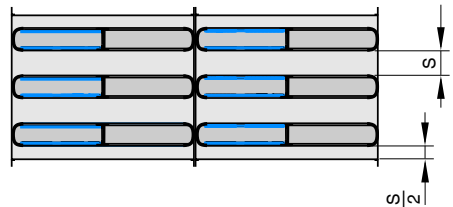
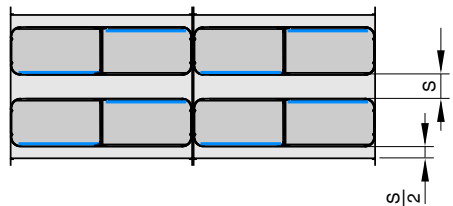

Fig. 22: Opposite resonating panels
Fig. 23: Offset resonating panels
- Dimension (H) equals the clear height of the duct.
- The length of the duct must be at least equal to the sum of the splitter lengths (L).
- Only arrange splitters of the same length (L) side by side or on top of each other.
- The arrangement of the resonating panels (Fig. 22, Fig. 23) has to be the same over the entire length.
- The air must flow through the sound attenuator parallel to the splitter length (L); splitter height (H) and splitter length (L) must not be interchanged.